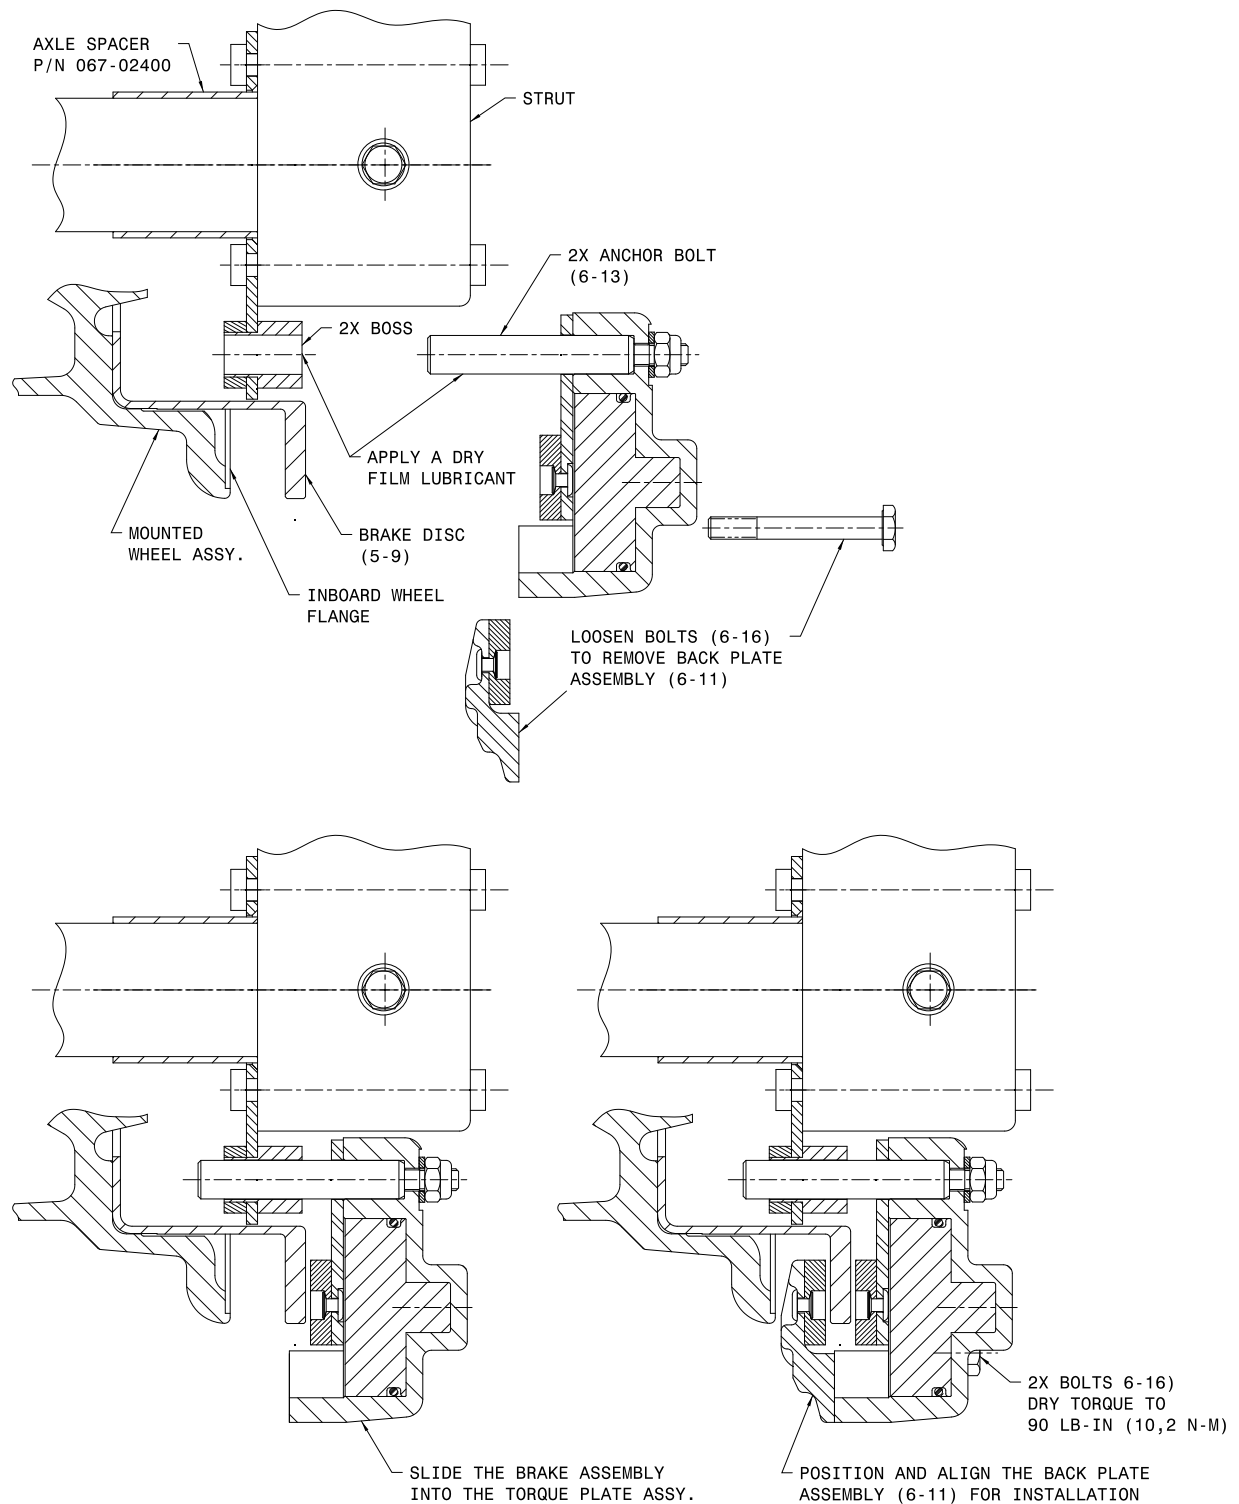
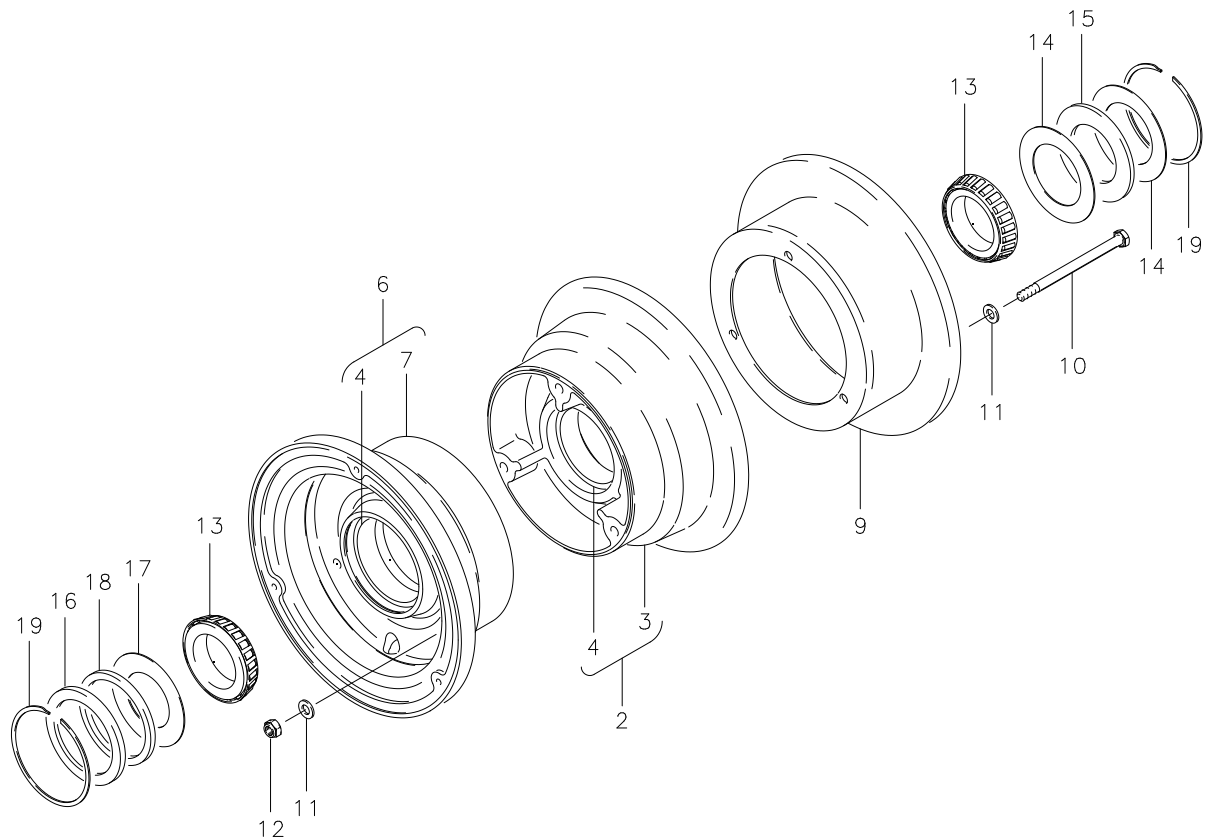

Figure 4, Mount the Brake Assembly
Figure 5, 40-113C Wheel Assembly
Refer to Figure 4, wheel assembly IPL and Figure 5, brake assembly IPL for identification of the wheel and brake assembly components.
Refer to Figure 4.
- (1) For Subassembly and Parts identification: See Figure 5; 40-113C IPL.
- (3) 199-48 CHROME is identical to 199-48 except for chrome plated brake disc. See Figure 5, 40-113C IPL.
- (4) Supplemental Type Certificate is included in IM199-48 Installation Manual and covers the following Universal Aircraft Industries (Globe Swift) aircraft models: